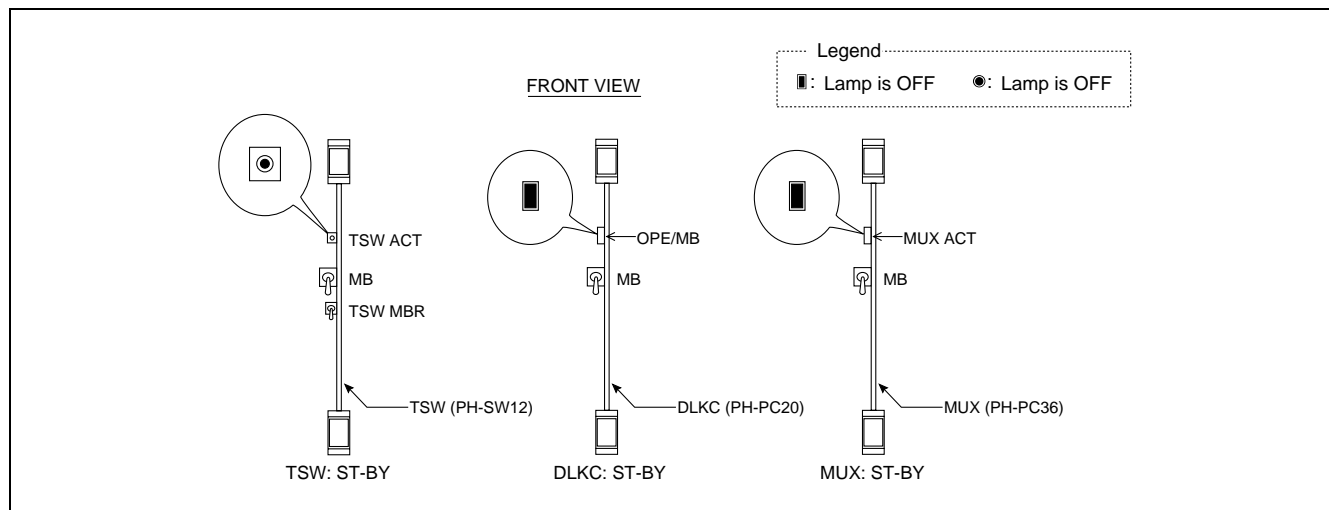

Figure 6-50 TSW/DLKC/MUX in STBY Mode
(2) Make sure the STBY mode of mate Speech Path System. Check all the lamp indications in Figure 6-50, which are in the same Switching Block.